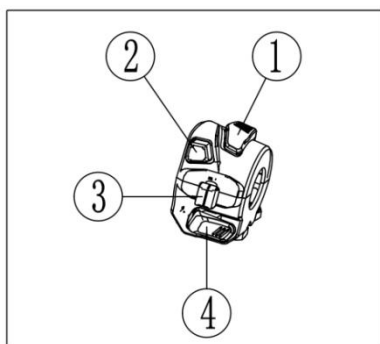

Figure 8
4.4 Right switch combination (Figure 8)